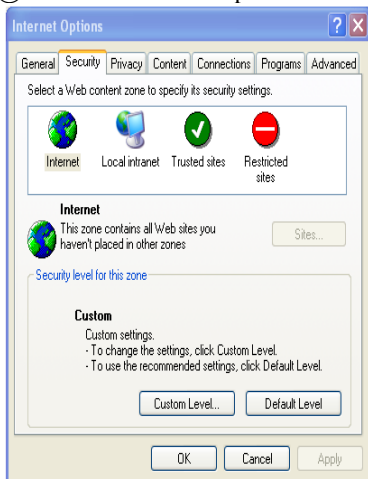

Fig 4-1
- ① Open IE browser. Click Tools-----Internet Options....
- ② Select Security-----Custom Level....Refer to Fig 4-1